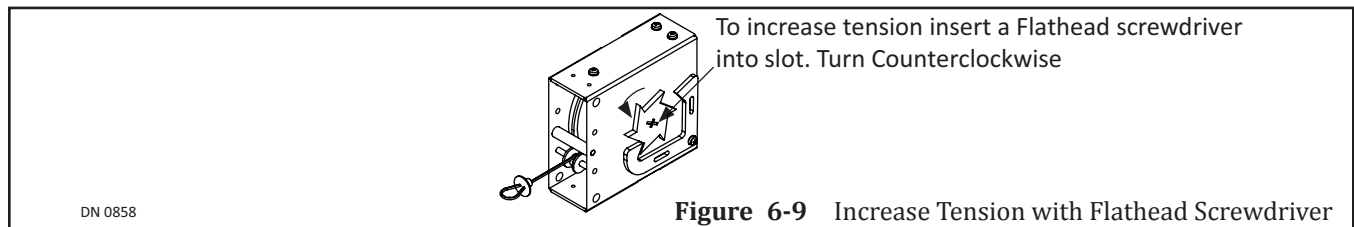

Figure 6-9 Increase Tension with Flathead Screwdriver
2. With a Flathead screwdriver turn the Tension plate counterclockwise to increase tension. Please see Figure 6-9.